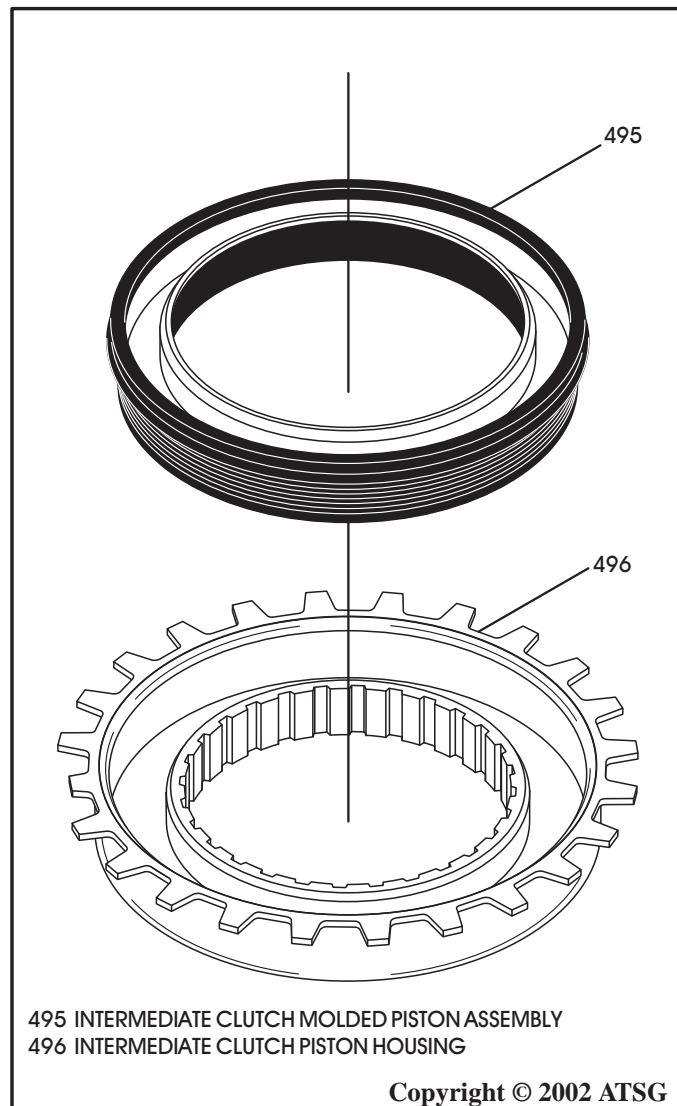

Figure 116
4. Lubricate molded intermediate clutch piston with small amount of Trans-Jel® and install it into intermediate clutch housing with rotating motion, as shown in Figure 116.